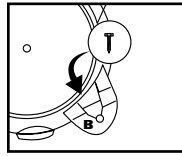

FIGURE 11
10. Secure caster foot to tank with screw provided. **FIGURE 11.**